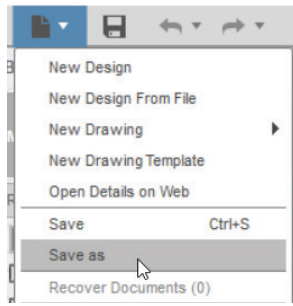
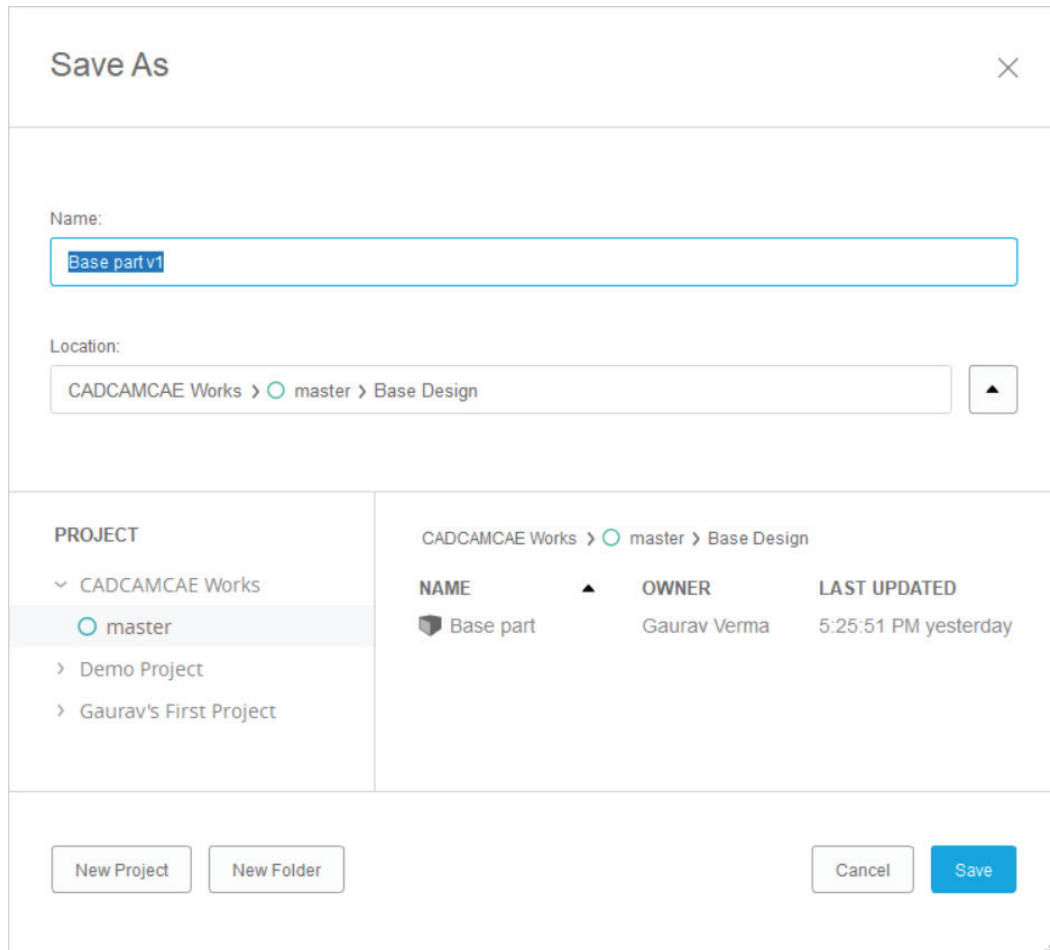

Figure-18. Save As Tool
Figure-19. Save As dialog box
- Click on **Save As** tool from **File** menu; refer to Figure-18. The **Save As** dialog box will be displayed as shown in Figure-19.